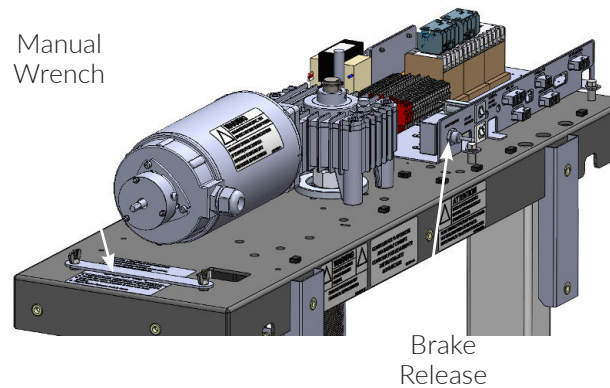

Figure 3-4
2. Loosen seven (7) screws around the perimeter of the top cap with a Phillips head screwdriver.
4. Remove the two wingnuts holding down the manual lowering tool. *See Figure 3-4.*